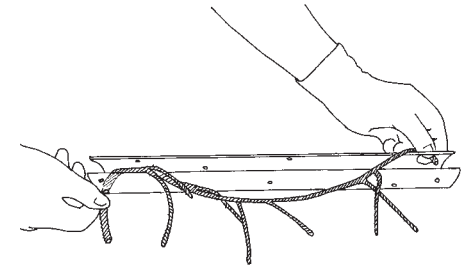

fig 10
2. Thread the 2 ends of the vein through the holes at either end of the tube and draw the vein along the slot to engage it **fig 10**.